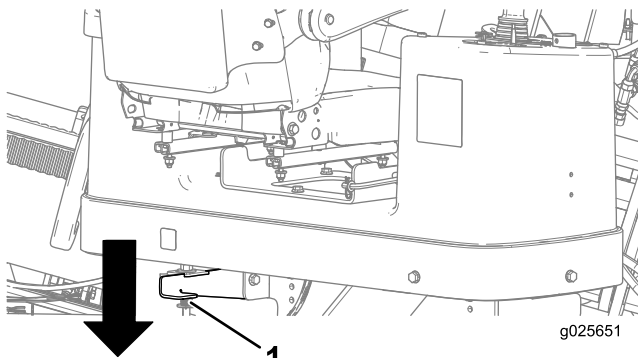

Figure 71
5. Push down on the rear platform latch securing the operator platform, and swing it out to the desired position, ensuring that it locks in place (Figure 71).